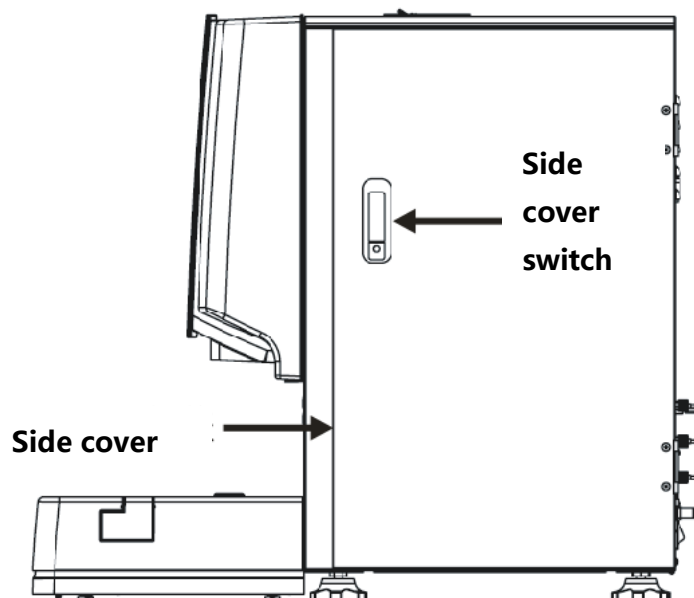
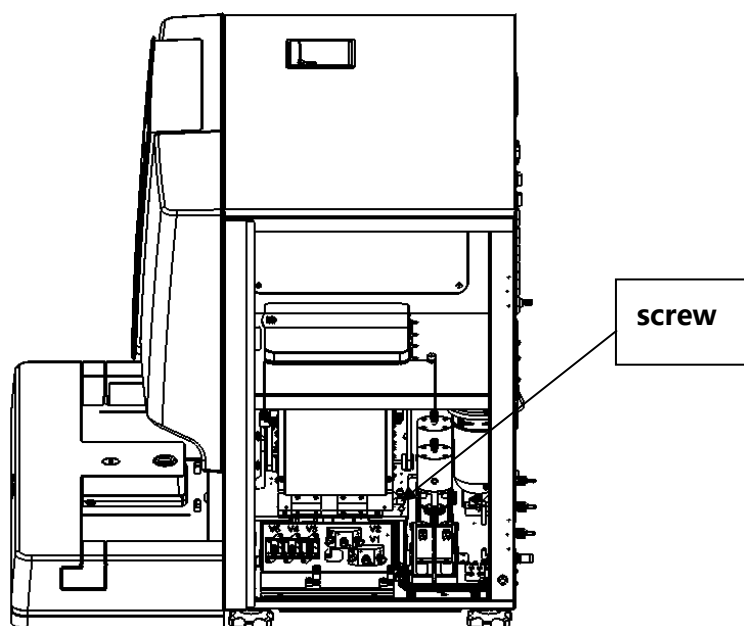

Figure 2-2
Figure 2-3
3. Open the right front shell of the instrument and remove the fixed attachment on the upper cover of the selection mechanism; Use the side cover switch key to open the side cover on the right side of the instrument(see Figure 2-2), remove the screws on the selection mechanism (see Figure 2-3), remove the side cover, and close the side cover switch to lock the side cover.